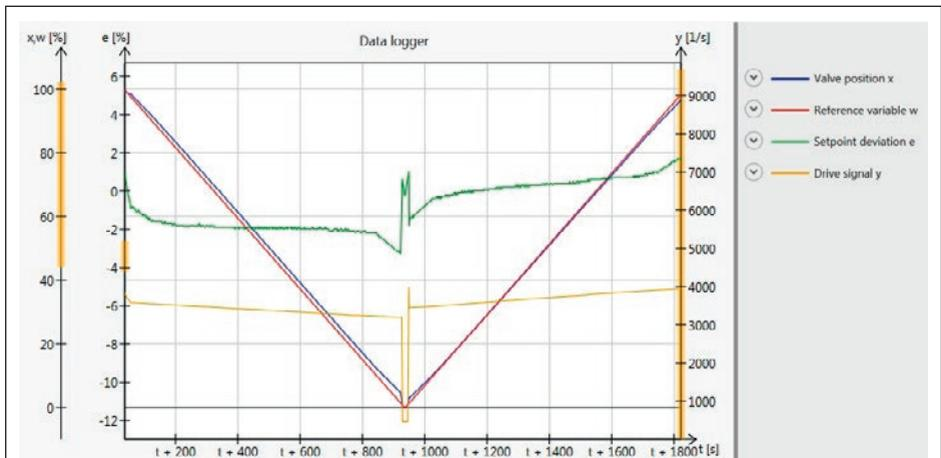

Fig. 21: Full stroke test to determine the ramp times in the partial stroke test
- 'Tolerance limit for step response' = 2.0 % (WE)
- 'Activation of the ramp function' = Yes (WE)
5. Analyze the logged data: If the valve position follows the set point closely, the adjusted ramp times can be used for the partial stroke test. If this is not the case, repeat the full stroke test with different ramp times until the valve position follows the set point (Fig. 21).